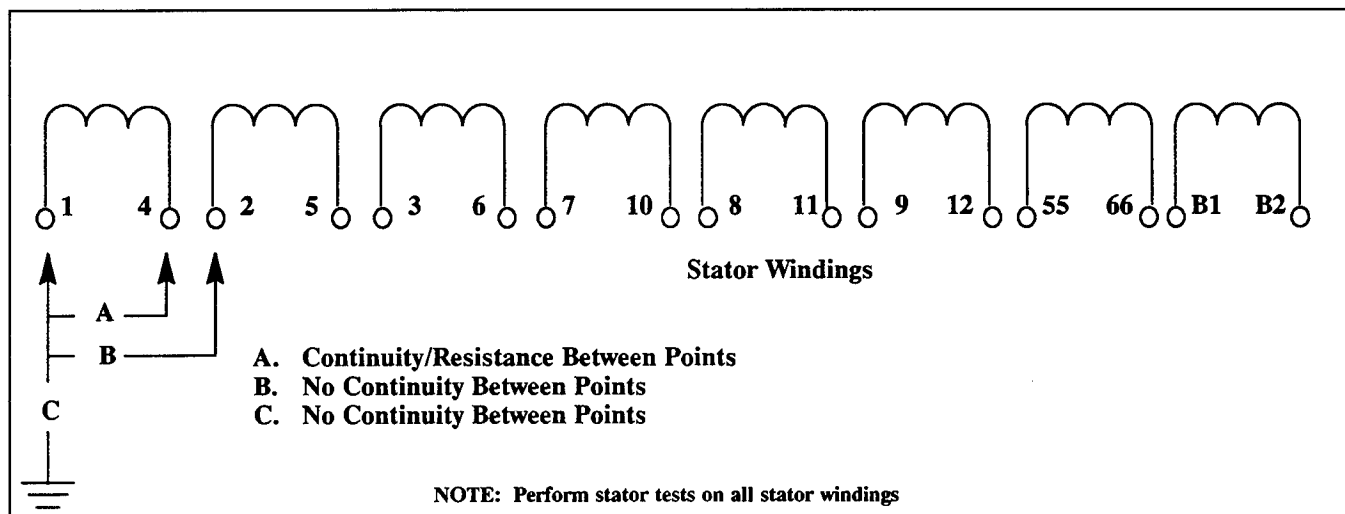

Figure 8-21. Stator Winding Test
6. Disconnect all stator windings to isolate windings. Using an ohmmeter, check resistance of each pair of leads. High resistance across "A" or low resistance (continuity) across "B" or "C" indicates a faulty stator. Repair or replacement of the stator is necessary. See Figures 8-21 and 8-22. If the resistance test proves inconclusive, perform a megohmmeter test on stator as described in the next step.